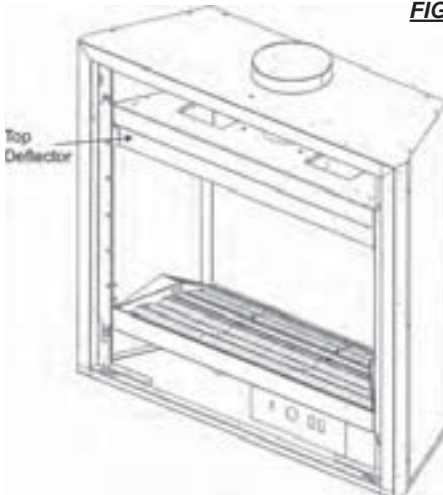

FIGURE 109
- 4a. (BGD36CFG) Remove the top deflector and porcelain panels from the firebox. (See Figure 109).